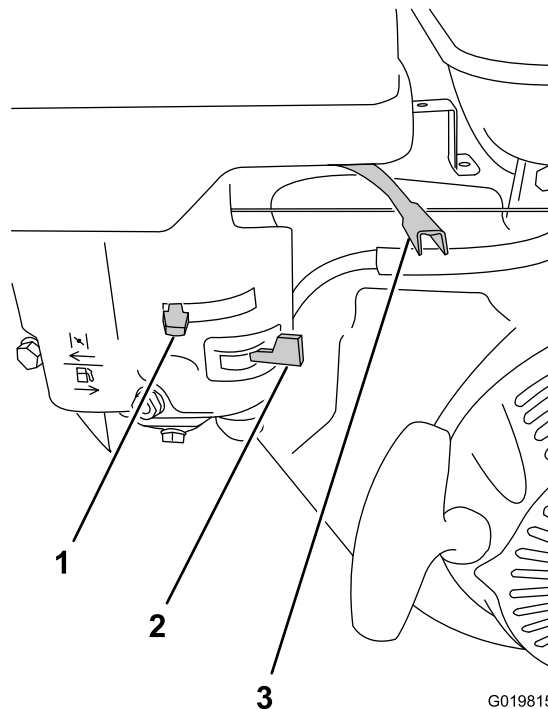

Figure 34
1. On the engine, move the throttle lever away from the Min position, 1/3 of the way toward the Max position (Figure 34); refer to Throttle Lever (page 12).
2. Move the lever of the fuel valve to the On position—all the way to the right (Figure 34); refer to Fuel Valve (page 12).
- To start a cold engine, move the choke lever to the Closed position—all the way to the left (Figure 34); refer to Choke Lever (page 12).
4. Rotate the engine switch to the On position (Figure 34); refer to Engine On/Off Switch (page 12).
1. Ensure that the choke lever is in the Off position (Figure 34); refer to Choke Lever (page 12).
2. Move the throttle lever to the Min position (Figure 34); refer to Throttle Lever (page 12).